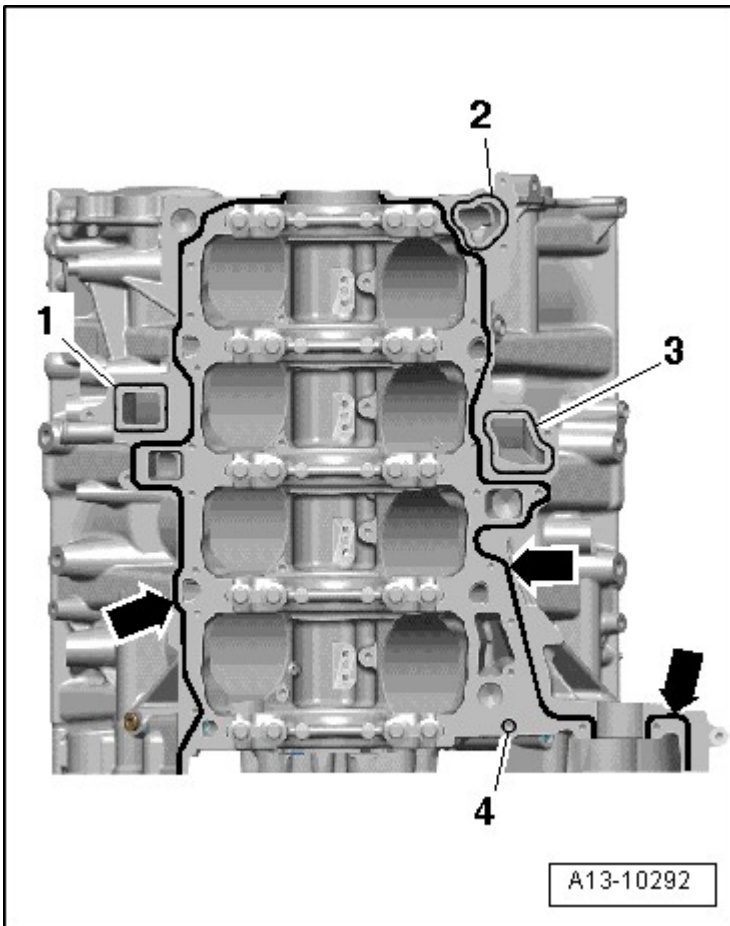

Fig. 3: Identifying Sealant Applied On Cylinder Block (For Guide Frame)
- Sealant applied on cylinder block (for guide frame), refer to **Fig. 3**